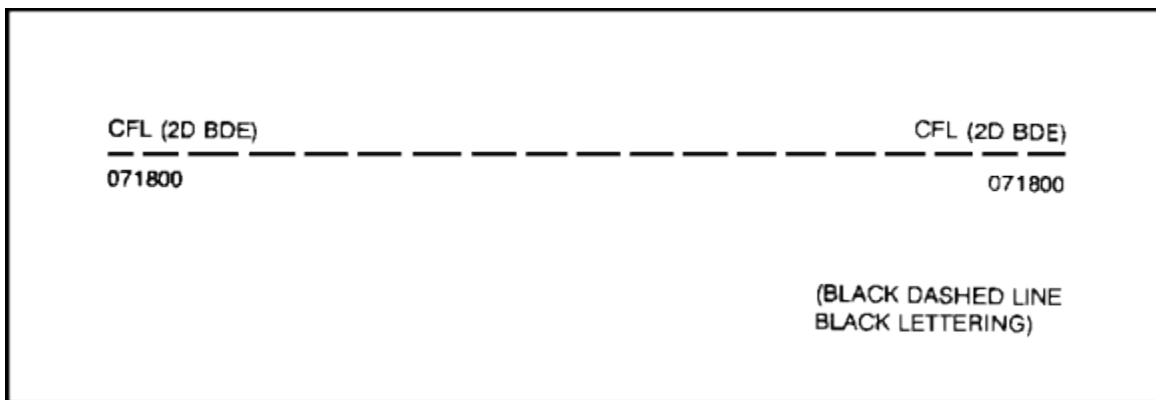

Figure 1-11. CFL graphic symbol
- **Coordinated fire line (CFL)**—line beyond which all surface-to-surface fire support assets may fire without additional coordination. A CFL may be established by a maneuver battalion operating independently, but normally is established by brigade or higher headquarters. The graphic symbol for the CFL is shown in Figure 1-11.